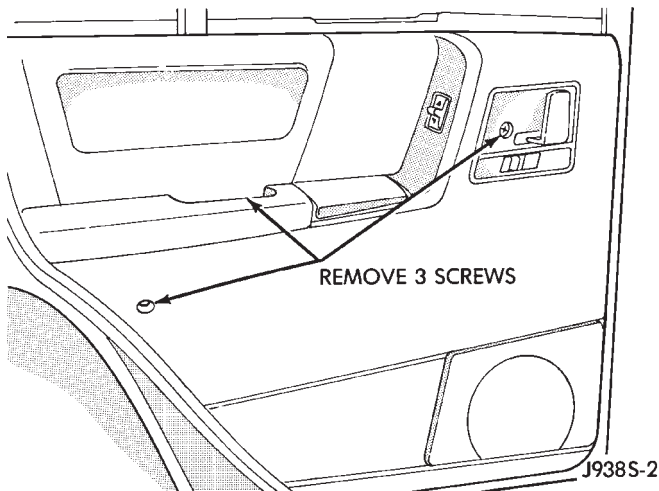

Fig. 4 Trim Panel Attachment
(1) Remove screw and door handle cover (Fig. 4).
(2) Remove screw from under armrest.
(3) Remove screw from bottom of hand hold in armrest.